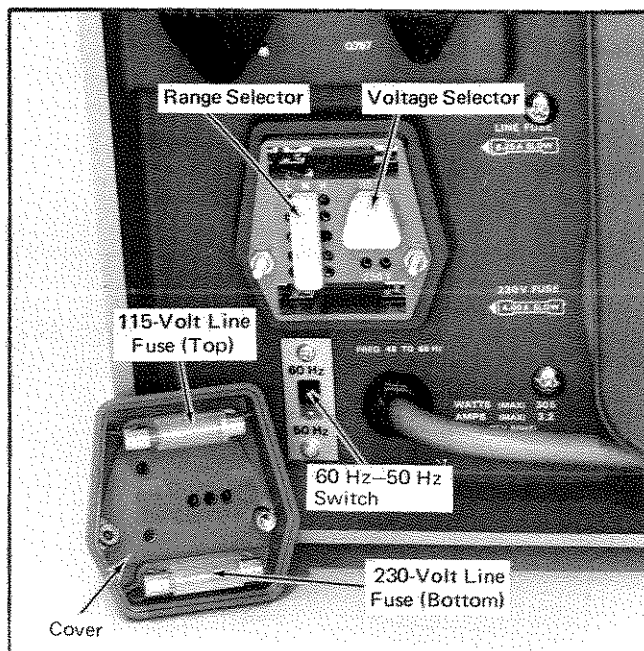

Fig. 2-1. Line Voltage Selector assembly and 60 Hz-50 Hz switch on the rear panel (shown with cover removed).
3. To convert from 115-volt to 230-volt line voltage or vice versa, pull out the Voltage Selector switch bar (see Fig. 2-1); turn it 180° and plug it back into the remaining holes. Change the line-cord power plug to match the power-source receptacle or use a 115-to-230-volt power plug adapter.
4. To change regulating ranges, pull out the Range Selector switch bar (see Fig. 2-1) slide it to the desired position and plug it back in. Select a range which is centered about the average line voltage to which the instrument is to be connected (see Table 2-1).
6. To convert from operation with 60 Hz line frequency to operation with 50 Hz line frequency (or vice versa), slide the 60 Hz-50 Hz switch (see Fig. 2-1) to the position which coincides with the line frequency being used.